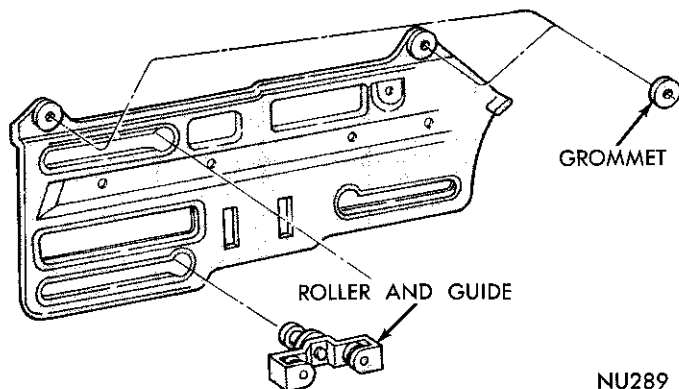

Fig. 74—Glass Lower Frame Assembly
(2) Remove track lower plate to support screw.
(3) Push track inward and move track and roller assemblies rearward to disengage rollers from glass lower frame.
(4) Remove track and rollers out of panel through large access hole.
(5) Remove roller assemblies from track (Fig. 74).
- (1) Position roller and guide assemblies on track.
- (2) Insert track assembly in quarter panel.
- (3) Position roller assemblies into slots of glass lower frame (Fig. 74).
- (1) Position roller assembly on track and insert assembly into quarter panel through large access opening.
- (2) Position roller assembly into slot of glass lower frame (Fig. 74).
- (1) Inspect glass lower frame to be sure grommets are installed at the upper outer holes (Fig. 74).
- (2) Insert roller and guide assemblies into lower frame front upper and lower slots.